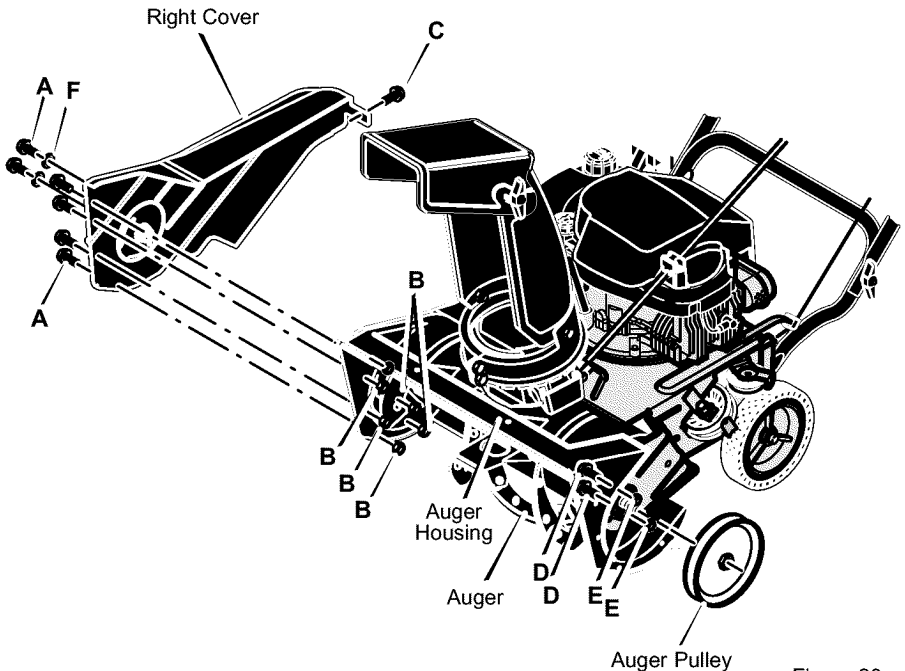

Figure 23
5. Remove bolts **A**, washer **F**, and nuts **B** from front of right cover (See Figure 23).